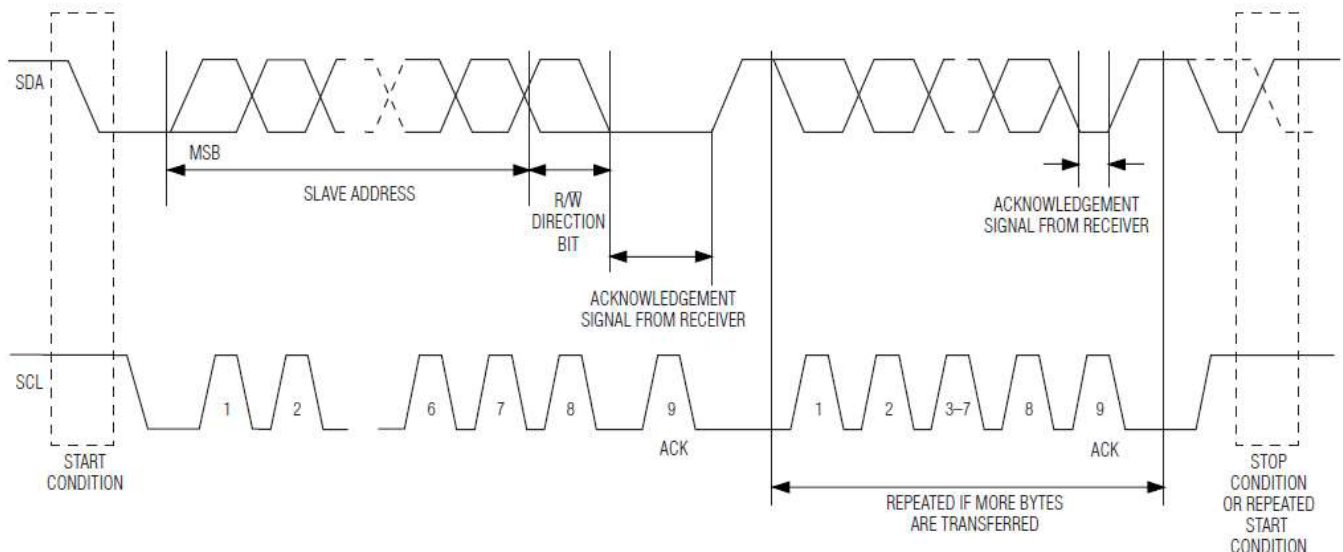

Figure 6 . 2-Wire Data Transfer Protocol
The 2-wire serial-port interface supports a bi-directional data transmission protocol with device addressing. Connections to the bus are made through MOD_DEF2 and MOD_DEF1. Timing diagrams for the 2-wire serial port can be found in Figures 6. Within the bus specifications, a standard mode (100kHz clock rate) and a fast mode (400kHz clock rate) are defined. The Module works in both modes.
- Data valid : The state of the data line represents valid data when, after a START condition, the data line is stable for the duration of the high period of the clock signal. The data on the line can be changed during the low period of the clock signal. There is one clock pulse per bit of data. Figures 6 detail how data transfer is accomplished on the 2-wire bus.
- START Condition : A high-to-low transition of MOD_DEF2 with MOD_DEF1 high is a START condition that must precede any other command. See the timing diagrams in Figures 6 for further details.